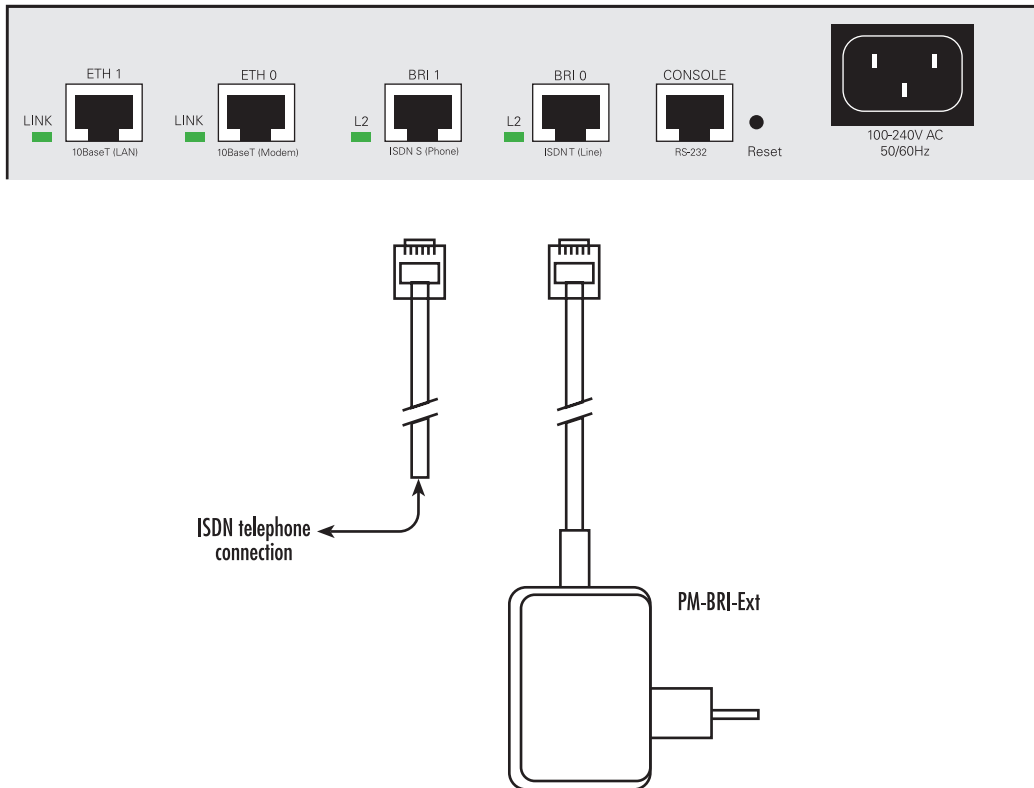

Figure 41. SmartNode 1200 external 40-VDC power supply
- In the absence of an NT the PM-BRI-EXT may be connected directly to the BRI 0 port on the SmartNode (see figure 41). The terminals are connected to the BRI 1 port.